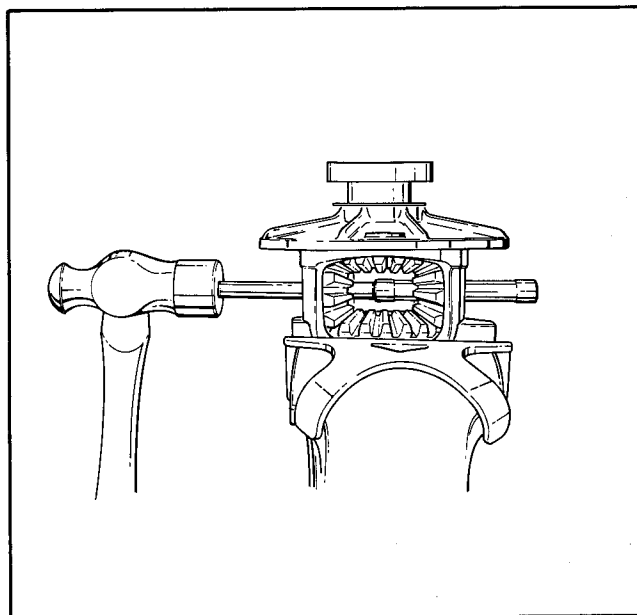

Figure 4-24 – Remove Idler Gear Shaft
- l. Drive idler gear shaft (30) from case with long brass drift. See Figure 4-24.
- m. Remove idler gears (28) and thrust washers (26) (one on back of each gear) by rotating both gears 90° to opening in differential case.
- n. Remove differential side gears (28) and thrust washers (27) (one on back of each gear) through opening in differential case.